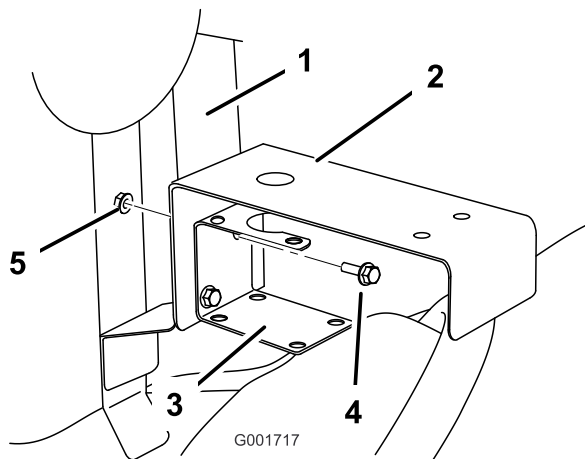

Figure 9
5. Install the control valve bracket between the supply tee bracket and the mounting frame (Figure 9) using the fasteners removed previously.